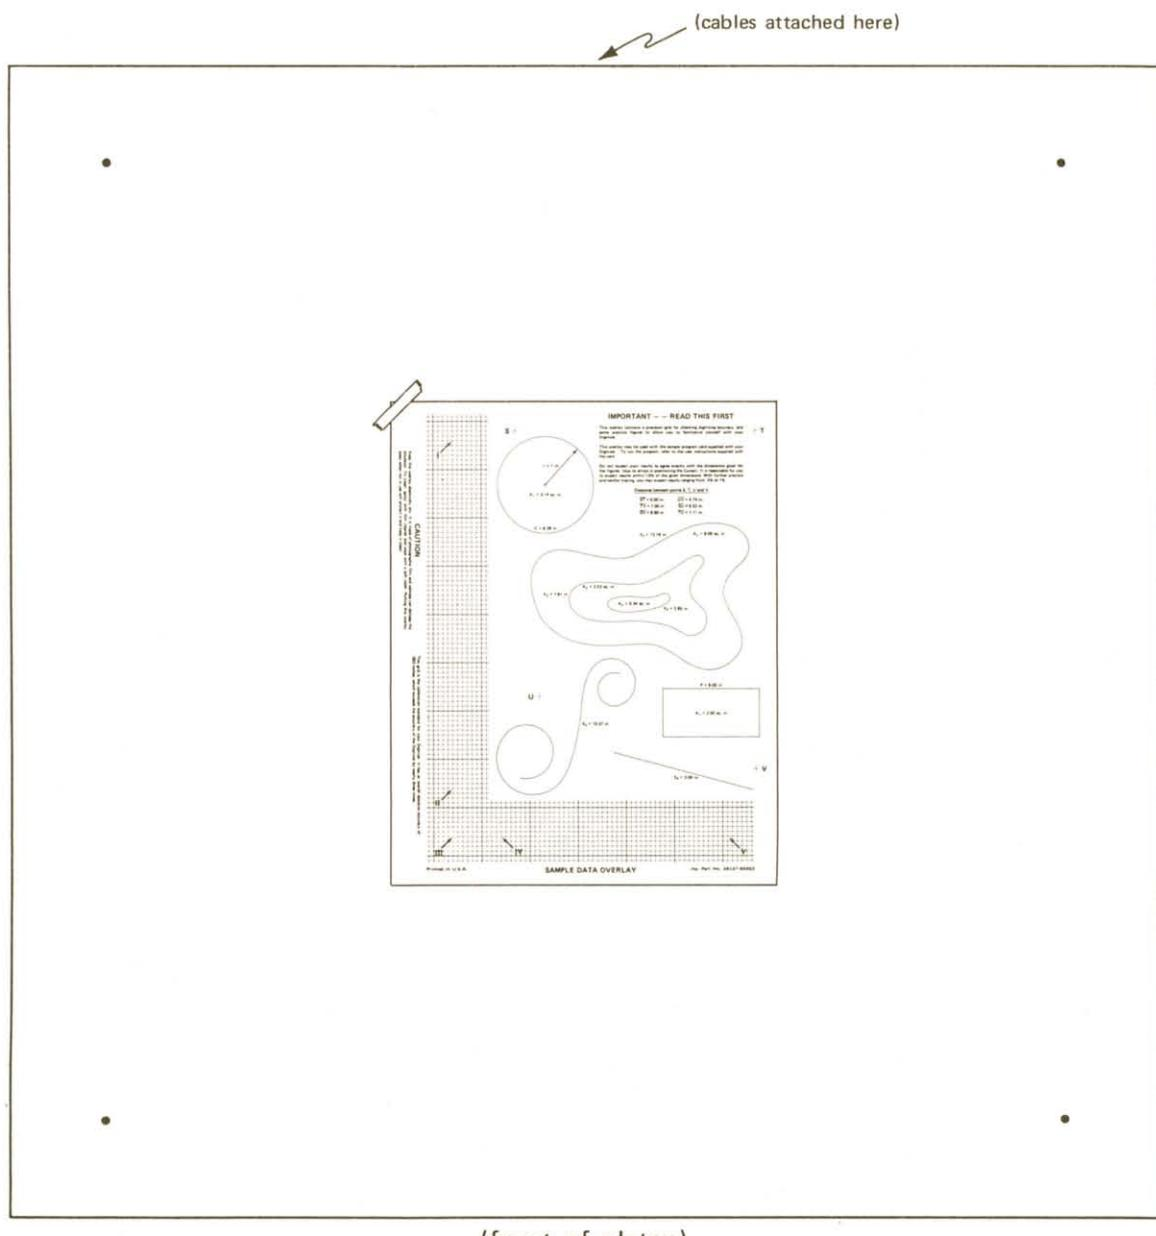

Figure 5-1 Document Alignment Procedure
2. Attach the Sample Data Overlay supplied with your digitizer to the platen (see Figure 5-1).
2. Attach the Sample Data Overlay (or another document which is to be digitized) to the digitizing surface, as shown in Figure 5-1.